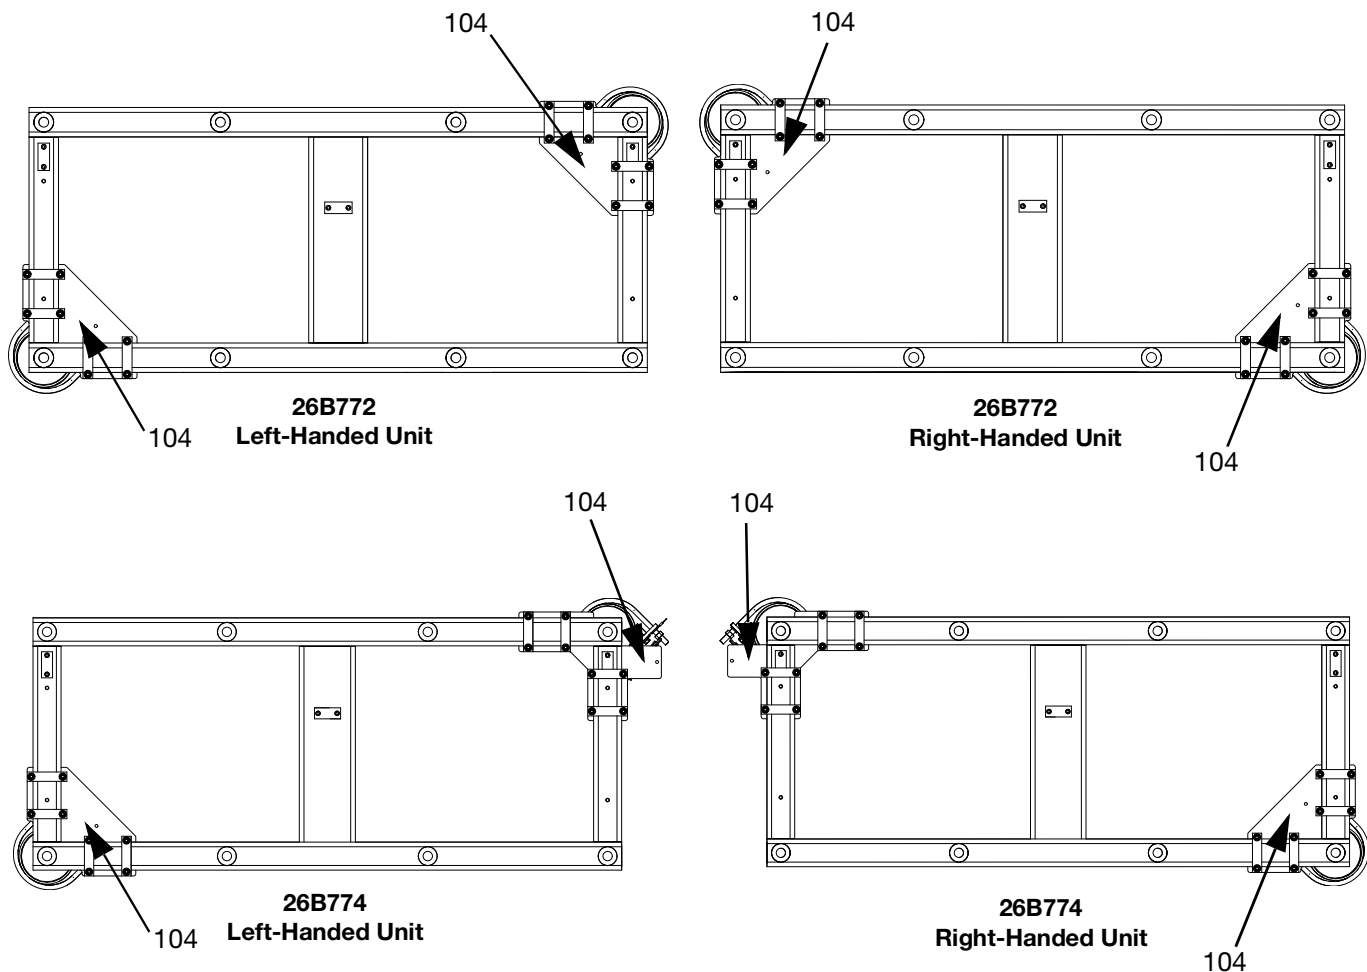

FIG. 7
12. With the ram still in the fully lowered position, install the right and left base plates (104) in their respective corners as shown in FIG. 7. Use the supplied screws (109, 110), flat washers (111), lock washers (113), nuts (117), adhesive (115), and mounting plates (118, 119).